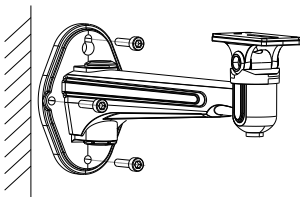

Figure 2-5 Install the Bracket
8. Attach the wall mount to the wall and tighten the screws to fix it. As shown in Figure 2-5.